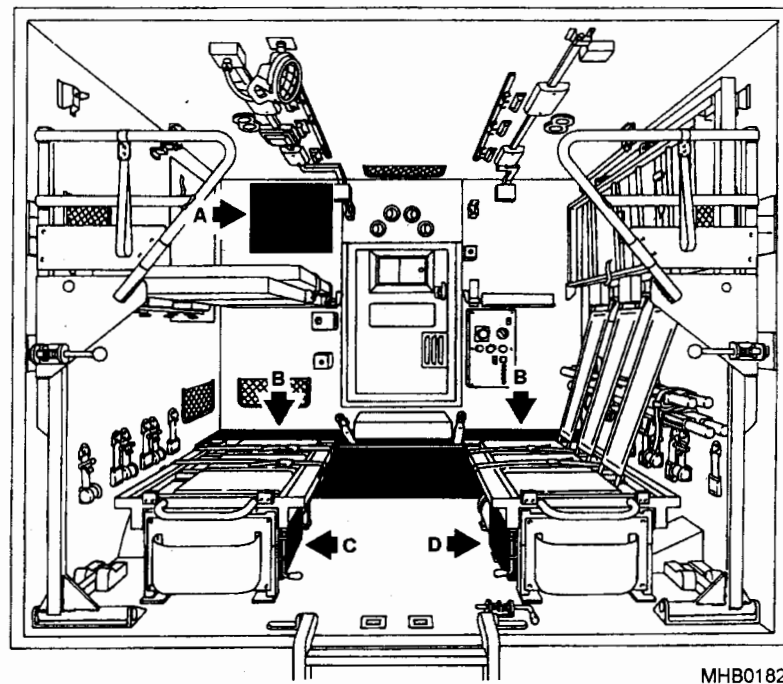

Fig 17 Equipment stowage
36 The following items are stowed in each of the areas (Fig 17).
- 38 The stowage locations (Fig 17) for the equipment are as follows:
- 38.1 Luton (A).